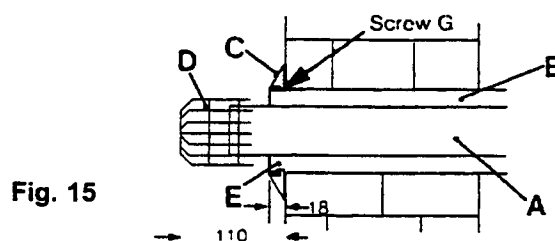
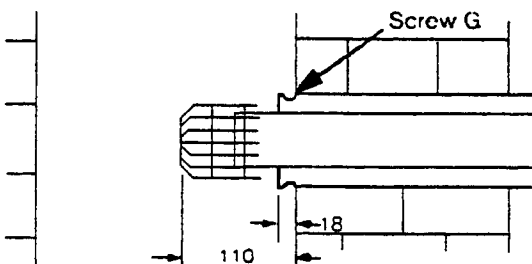

Fig. 15
Fig. 16
NOTE: The two tubes must be separated by removing screw G (fig. 15) before cutting.
- 5.5.9** Ensure inner and outer terminal tubes are firmly fitted together with screw G (Fig. 15). Push the terminal tubes through the wall until the face of the outer tube protrudes 18mm from the face of the wall (Fig. 15). The terminal grill (D) will then protrude 110mm from the wall face.
- 5.5.16** Check also that the outer end of the flue projects as indicated in Fig. 15 or Fig. 16 if installed in a S.E. duct.
- 5.5.19** Seal the peripheral gap around the outer tube with cement or mastic and slip the cosmetic flexible plastic collar (Fig. 15) item C) into groove on the pipe.
- 5.5.31 Subtract 95mm from the dimension and cut the outer tube to this length. NOTE: The two tubes must be separated by removing screw G Fig. 15 before cutting.